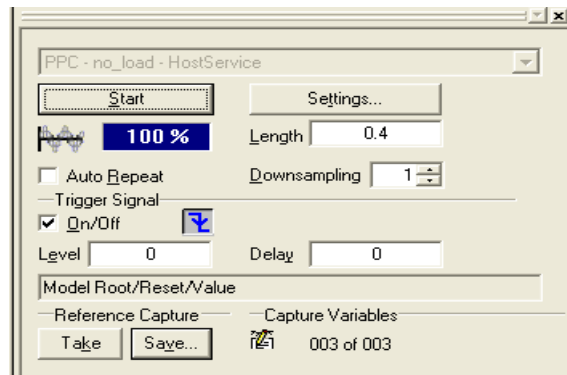

Figure 3.7: Capture setting window
1. Open View Control bars/Capture Setting Window. Change the setting in the capture setting window as shown in Fig 3.7. Drag the reset signal from the model root values into the grey box situated below the level-delay set boxes. Check the box called ON/OFF, check the edge direction, and the set the level value to 0.5. Also set the length to 0.4.